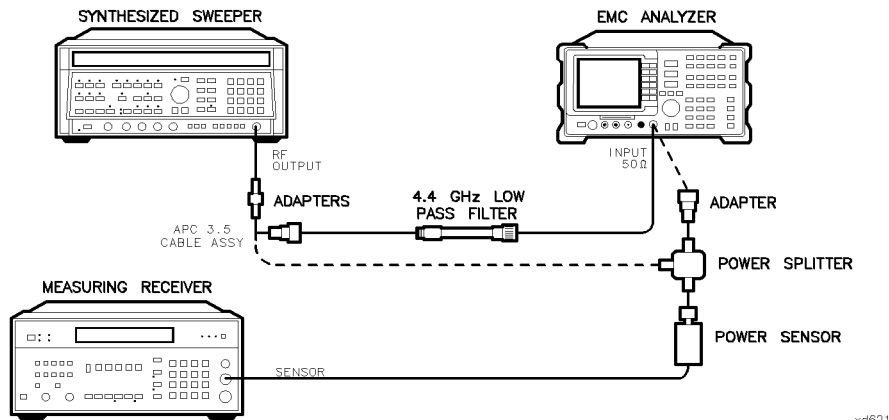

Figure 2-53.
13. Connect the equipment as shown in Figure 2-53, with the output of the synthesized sweeper connected to the input of the power splitter, and the power splitter outputs connected to the EMC analyzer and the power sensor.
24. Connect the equipment as shown in Figure 2-53 with the filter in place.